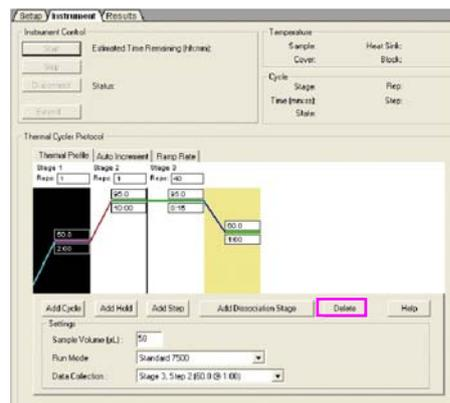

Fig.11
- Double-click on **STAGE 1** part and click on **DELETE** (Fig11).